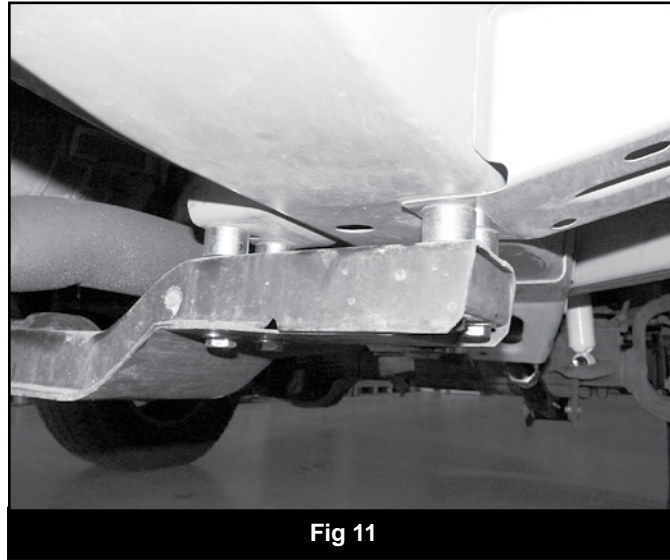

Fig 11
3. Remove the four passenger's side crossmember bolts. Lower the crossmember just enough to be able to place the provided drop spacers (YJTC5) at the four mounting holes (Fig 11). Loosely attach the crossmember and spacers with two 10mm x 140mm and two 10mm x 100mm bolts and 3/8" USS washers (BP #726). The longer 140mm bolts go to the outside of the vehicle.